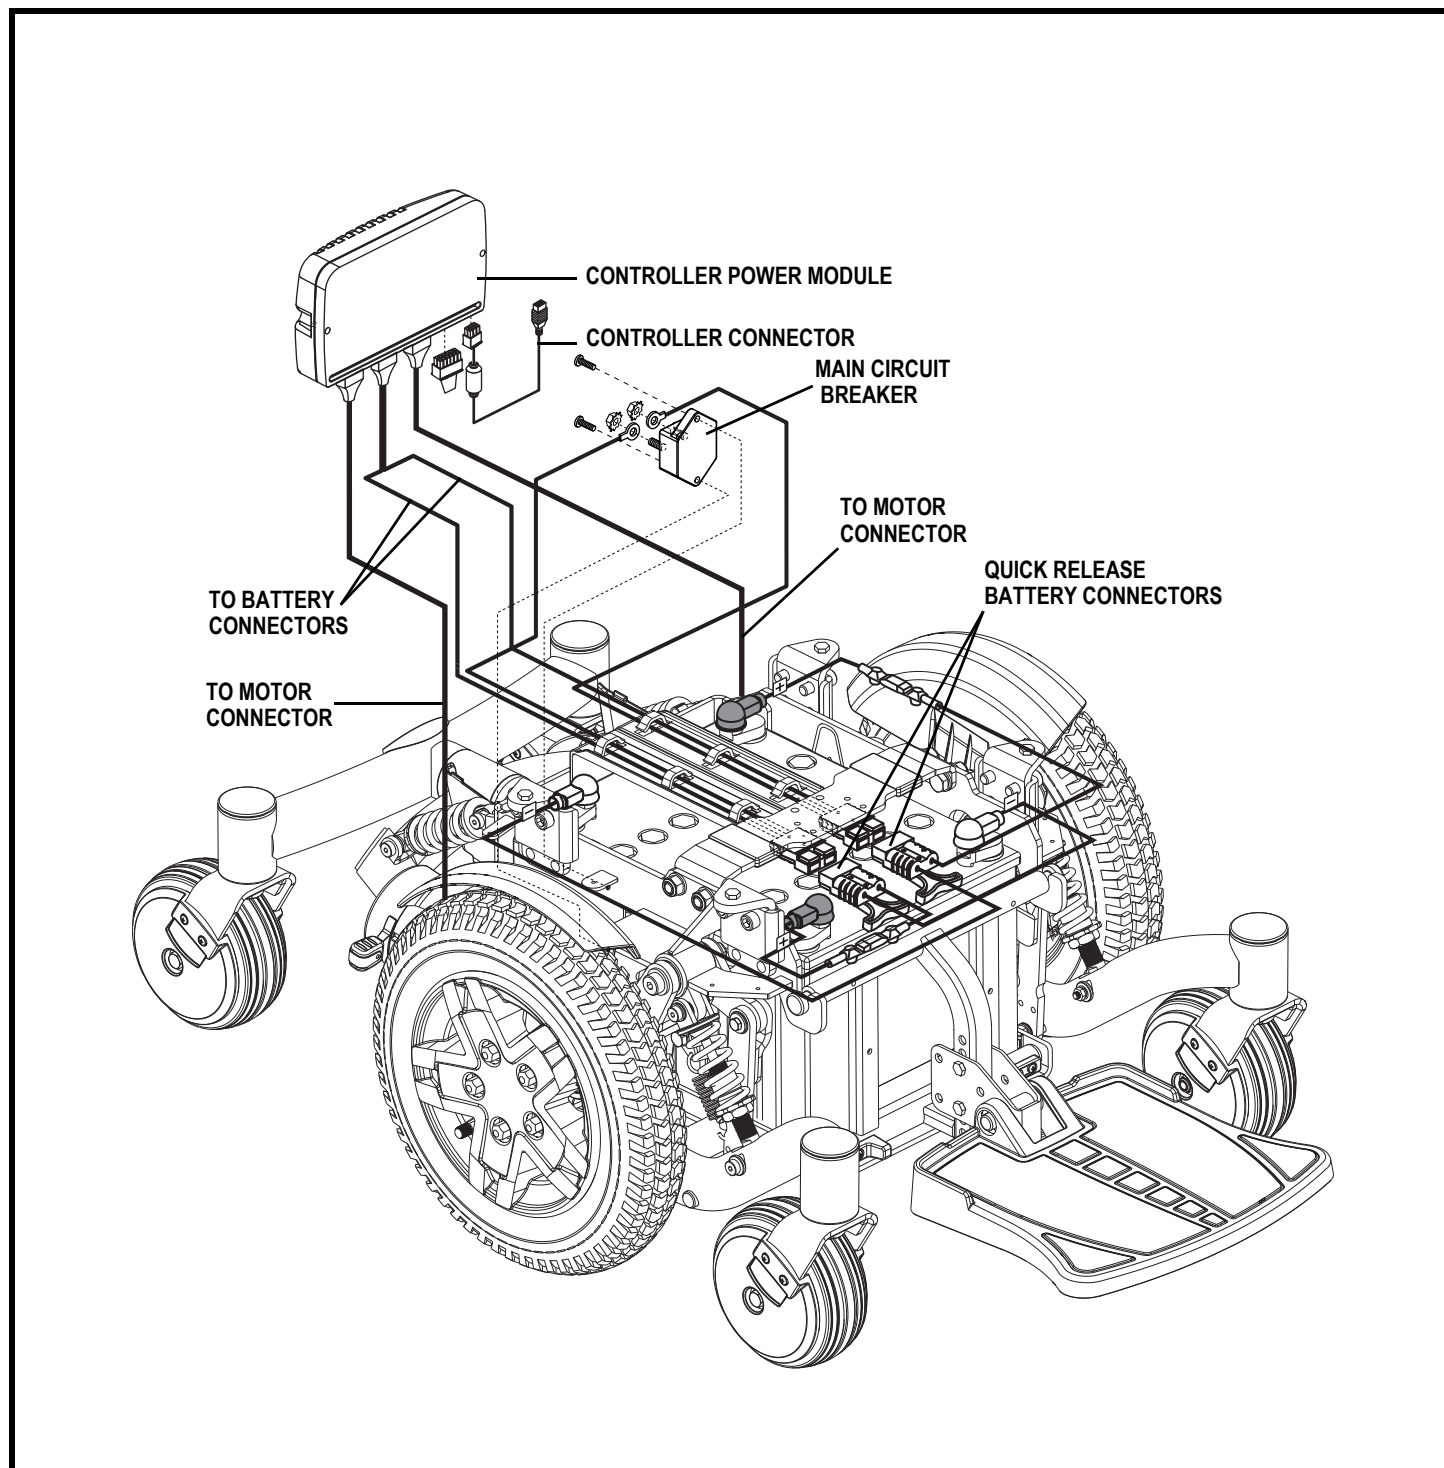

Figure 6. Q6 Edge HD Electrical Components
The electrical components consist of the controller assembly, the batteries, and the motors. The batteries, motors, and controller power module (if equipped) are located on the power base assembly. The controller is located on the seat assembly. Connectivity between the controller and the motors, batteries, and the battery charger is provided by one or more wiring harnesses. See figure 6.
5. Plug the controller connector into the rear of the power base. See figure 6.
3. Unplug the controller connector(s) from the power base. See figure 6.